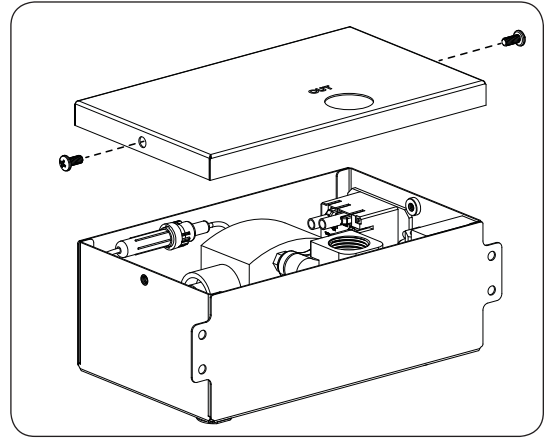

Fig. 49-1 Remove access panel of valve box
4. Use a Phillips screwdriver to remove the access panel of the valve box (see Fig. 49-1).